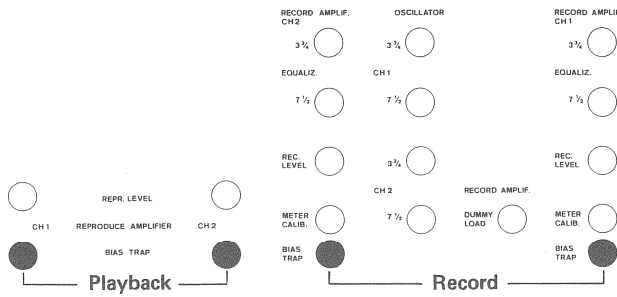

Fig. 6.4-64
- Set minimum voltage at BIAS TRAP CH 1 and CH 2: Less than < 300 mV (fig. 6.4-64).
- Under same conditions as 6.4.3. but, connect VTVM to OUTPUT terminals CH 1 and CH 2 and set BIAS TRAP of playback amplifier to a voltage minimum : Less than < 50 mV (fig. 6.4-64).